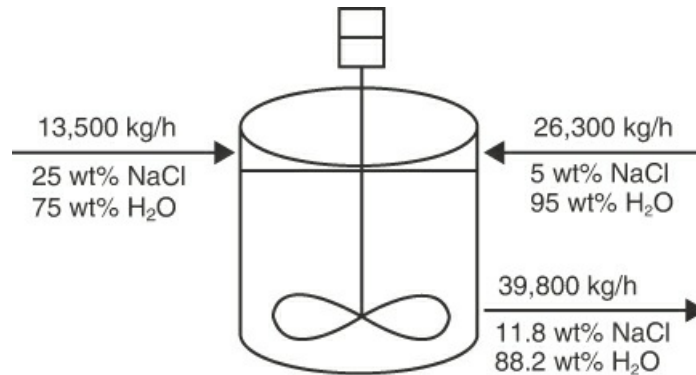

Figure P3.2.19
****3.2.19** Mixers can be used to mix streams with different compositions to produce a product stream with an intermediate composition. Figure P3.2.19 shows a diagram of such a